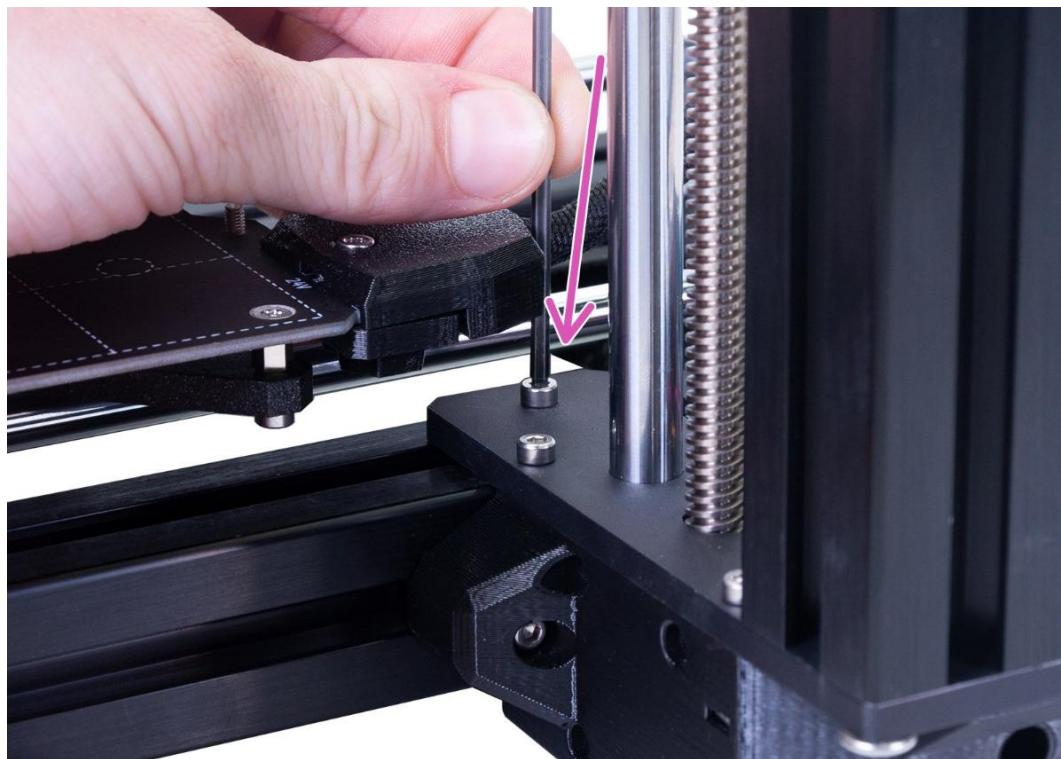

Figure 5.1.18
**A:** As shown in Figure 5.1.18. The M3x12 screw at the top.